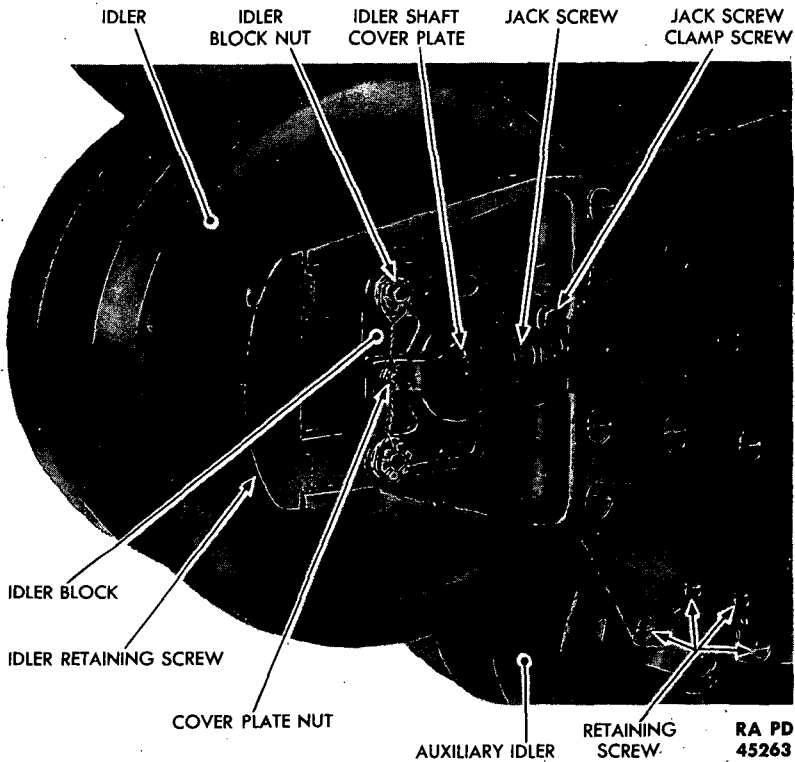
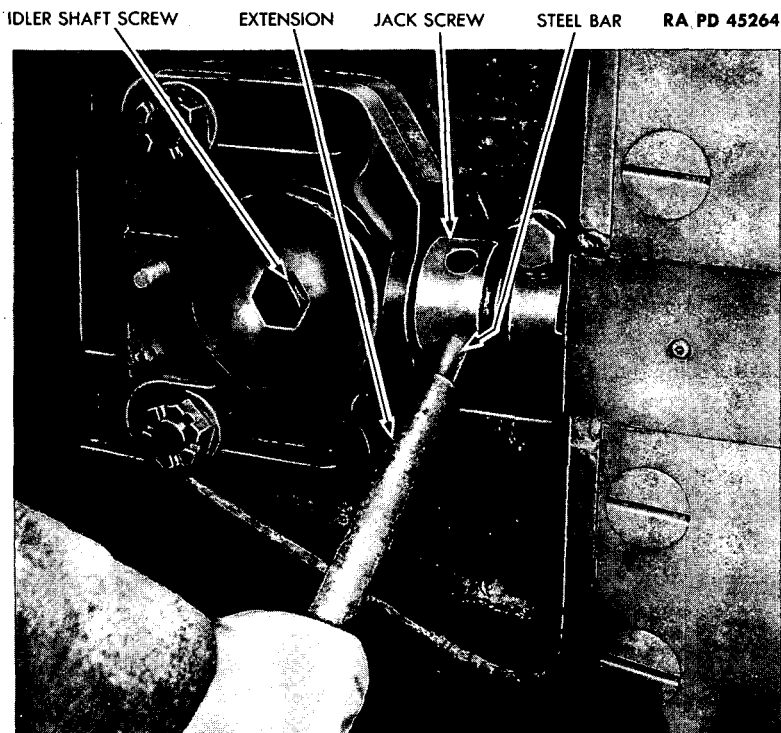

Figure 34—Detail of Idler Assembly
Figure 35—Adjusting Track Tension
a. Check the track daily for too much sag. If a pronounced sag is evident, correct the track tension to eliminate the possibility of the track being damaged or thrown off because of looseness. Provision to adjust the track is made at the main idler in the front of the vehicle. Since the main idler is dual, to accommodate the double track, it must be adjusted at both the outer and inner sides (figs. 35 and 36). In turning the adjusting idler jackscrews, alternately turn the inner and outer screws to prevent cocking the idler.
(1) Remove the lock wire which secures the idler block nuts and the cover plate nuts (fig. 34).
(2) Loosen the idler block nuts, then loosen the jackscrew clamp screws (fig. 34). Remove the cover plate nuts and lift off the idler shaft cover plates (fig. 34).
(3) Loosen the idler shaft screws (each side of the idler) (fig. 35).
(4) Alternating between the inner and outer jackscrews, turn the jackscrews in or out to move the idler in its slots in the idler block and adjust track tension (fig. 35).
(5) When the tension in the track has been adjusted, measure distance from the end of the idler block to the jackscrew clamp. This should be the same on both the inner and outer idler blocks, thus providing a check against the idler having been cocked when the inner and outer jackscrews were turned.
(6) Tighten the idler shaft screw, jackscrew clamp screw and idler blocknuts (fig. 34).
(1) Work the ends of the track together as close as possible. Place the track connecting fixture in position, and jack the ends of the track together.
(2) Place the two halves of the center track connector in position on the track pins, and install clamp bolt and nut.
(3) Drive end connectors on the pins, and install wedges and wedge nuts. Two to three threads must extend beyond the ends of the nuts to insure that the safety feature of the nut has a full grip. After assembly of wedges, there must be at least $\frac{1}{16}$ -inch clearance between top of wedge and the end connectors.
b. Removal of Auxiliary Idler (figs. 34 and 36). Removal and